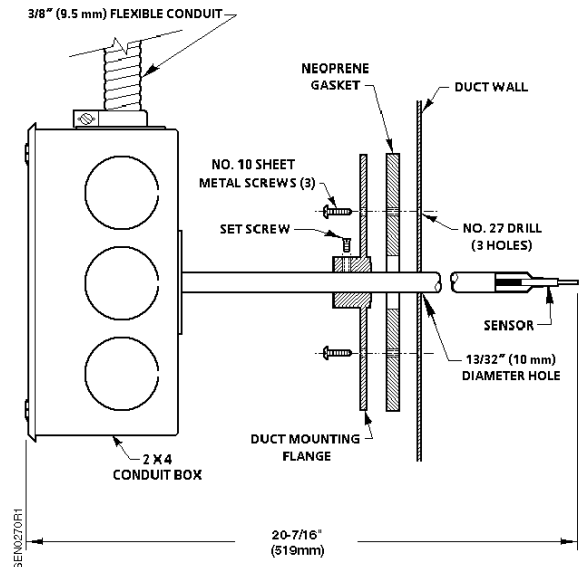

Figure 1. Duct Point Sensor Installation.
1. Drill a 13/32-inch (10.3 mm) hole into the duct at the desired location of the sensor. See Figure 1.